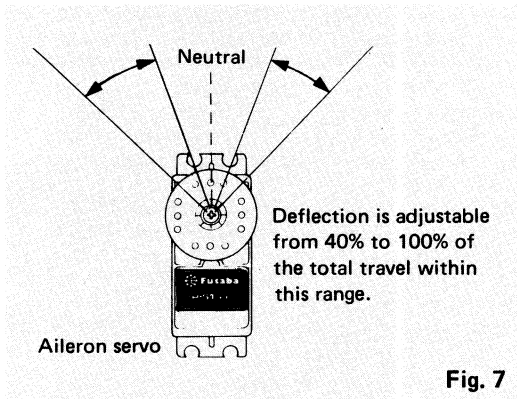
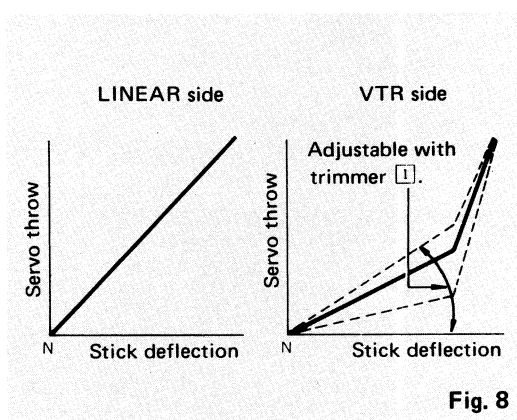

Fig. 7
Fig. 8
⑭ **Aileron dual rate switch**
Aileron dual rate ON-OFF switch. When set to the upper position, dual rate is turned on, and when set to the lower position, dual rate is turned off. At dual ON, the deflection can be set as shown in Fig. 7 with the ① aileron dual rate trimmer located on the trimmer panel at the back of the transmitter. At dual OFF, the operating linearity can be switched as shown in Fig. 8 with the ② LINEAR-VTR switch also located on the trimmer panel.